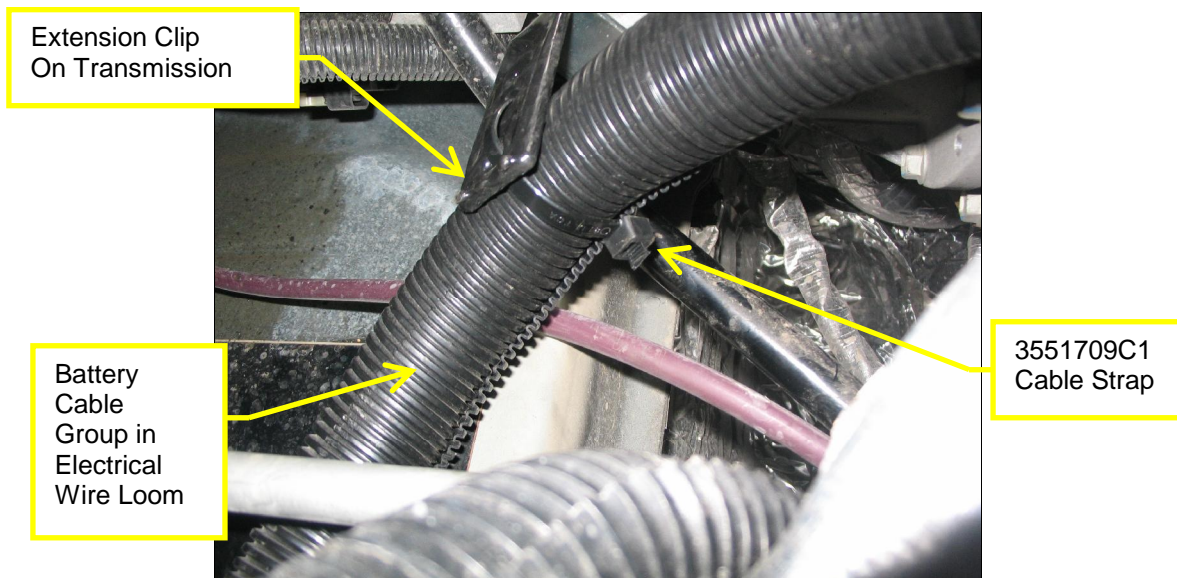

Figure 7.
12. Route the battery cable group to the battery box using the newly installed extension clip assemblies as shown in Figures 7, 8, and 9. The parts needed are tie straps 3551709C1 and 3516934C1.